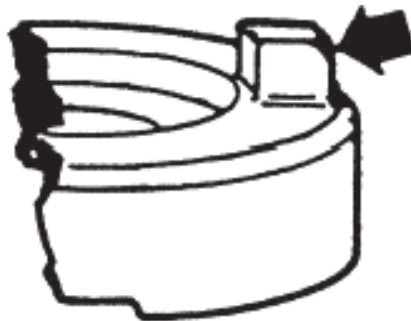

Figure 7-6. Worn Drive Lug
6. Inspect the impulse coupling body drive lugs (46). If wear is noted (Figure 7-6), measure difference between worn and unworn areas of drive lug surface. If difference exceeds 0.015 in., replace the impulse coupling body.